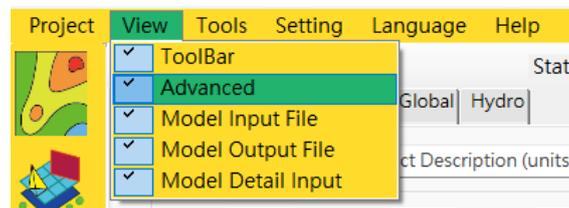

Figure 1.33. Check 'Advanced' option.
3. To proceed with the numerical simulation, select the 'Advanced' option in 'View' menu as shown in Figure 1.33.